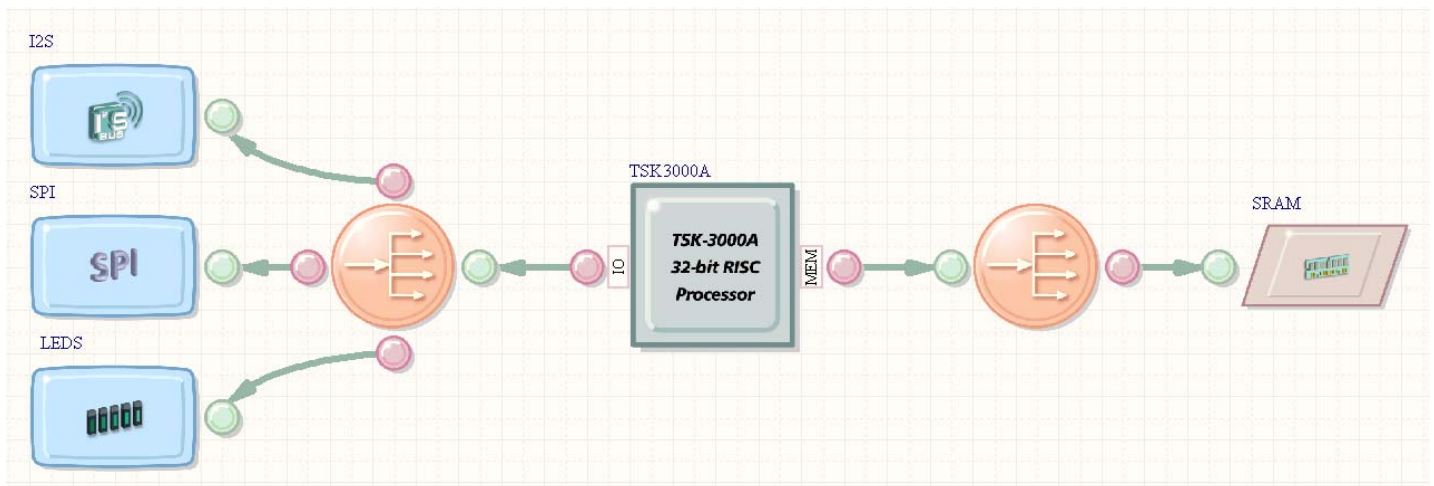
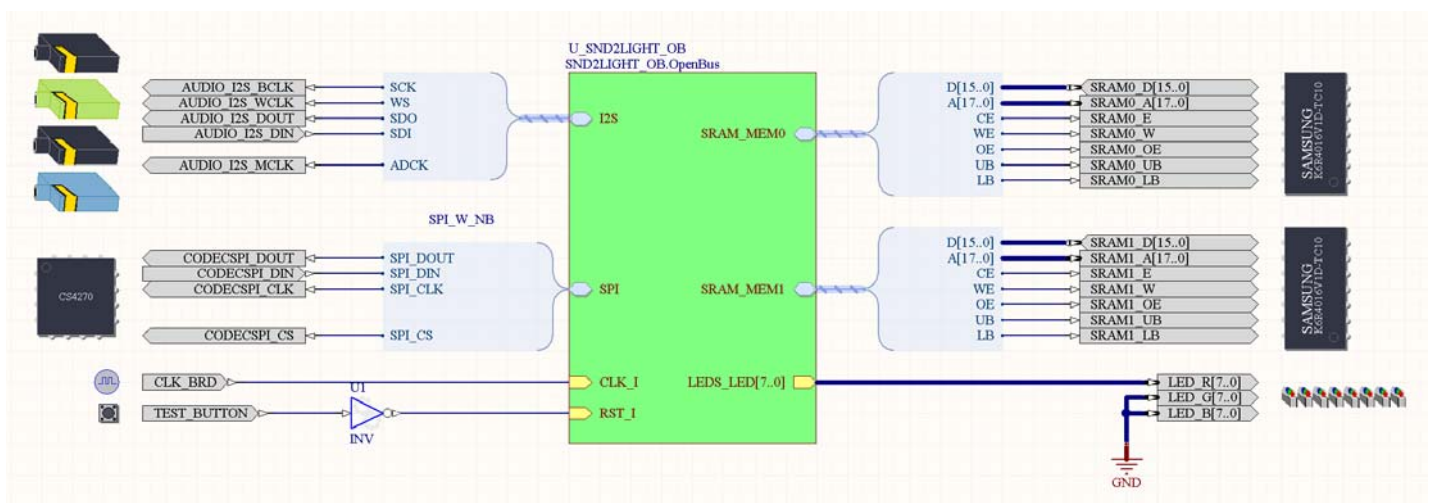

Figure 1. OpenBus document for the Snd2Light design.
Figure 2. Schematic top sheet for the Snd2Light design.
This exercise uses the components listed in Table 1, to create the circuits shown in Figure 1 and Figure 2.
3. Arrange the OpenBus components as shown in Figure 1.
5. **Place Links**  between the OpenBus components (shown in Figure 1).
16. Resize the Sheet Symbol, and reposition the Sheet Entries to approximately match the Sheet Symbol shown in Figure 2.
18. Using the detail in Table 1 as a reference, locate and place the following components onto the schematic, arranging them approximately in the positions shown in Figure 2: